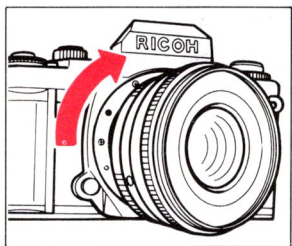

Fig. 6
4. Turn the lens in the arrow direction until it clicks into place. (Fig. 6)